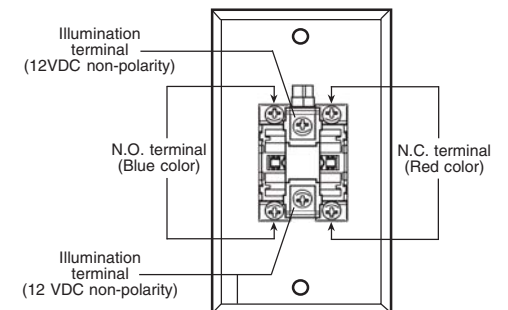

Fig. 1 – Bulb replacement
1. If the LED bulb needs to be replaced, removed the yellow lever cover as shown on Fig.1 by pulling it upward.